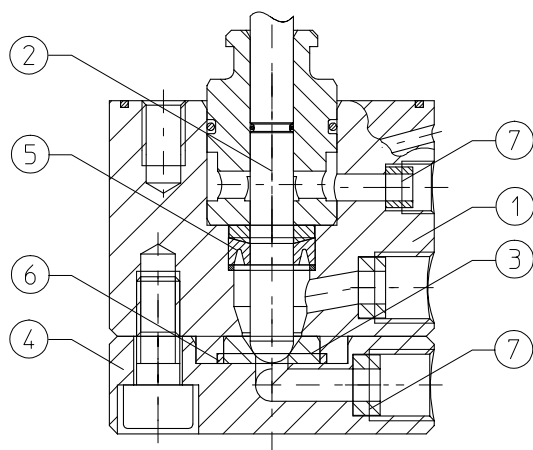

Fig. 6
- The fluid connections in the cover and valve housing (Fig. 6) are sealed from the inside.